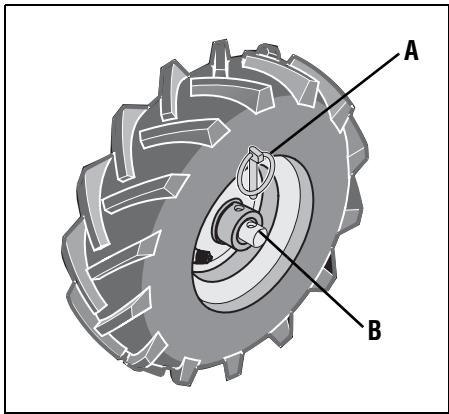

Figure 3-3: FREEWHEEL position.
5. FOR FREEWHEEL MODE (Figure 3-3):
Slide the wheel inward and insert the Klik pin (A, Figure 3-3) only through the hole in the wheel shaft (B). Repeat for the other wheel and then remove the support from beneath the transmission.